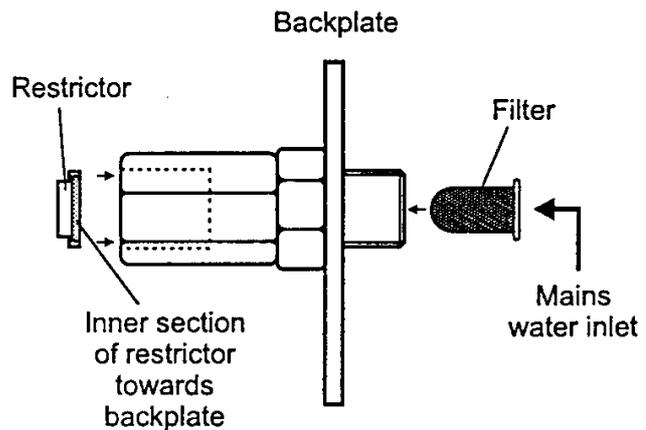

Fig. 23
9.24 COLD WATER INLET FILTER & FLOW RESTRICTOR (see Fig. 23)